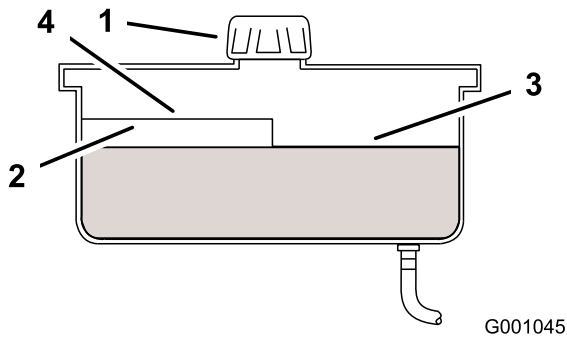

Figure 65
- Clean the area around filler neck of hydraulic tank (Figure 65).
- Remove the cap from the filler neck. Look inside to check if there is fluid in the reservoir (Figure 65).
Note: The fluid level should be to the top of the hot level of the baffle, when the fluid is hot (Figure 65).